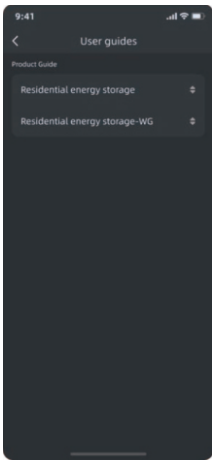

Figure 1
- 1)Figure 1: Display a list of all supported product models.